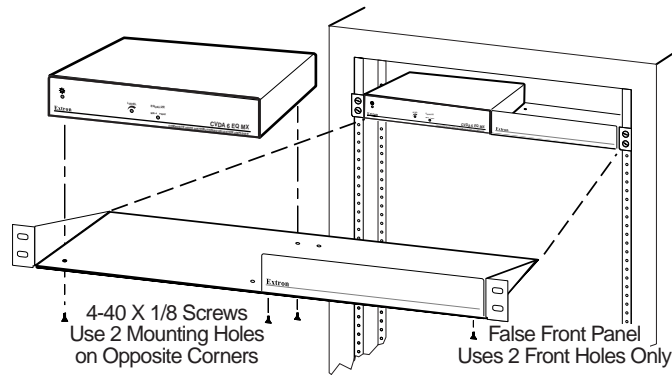

Figure 1 — Rack mounting the CVDA 6 EQ MX
- For optional rack mounting, mount the CVDA 6 EQ MX unit on the left or right side of a 19" 1U Universal Rack Shelf (Extron P/N 60-190-01) (figure 1).